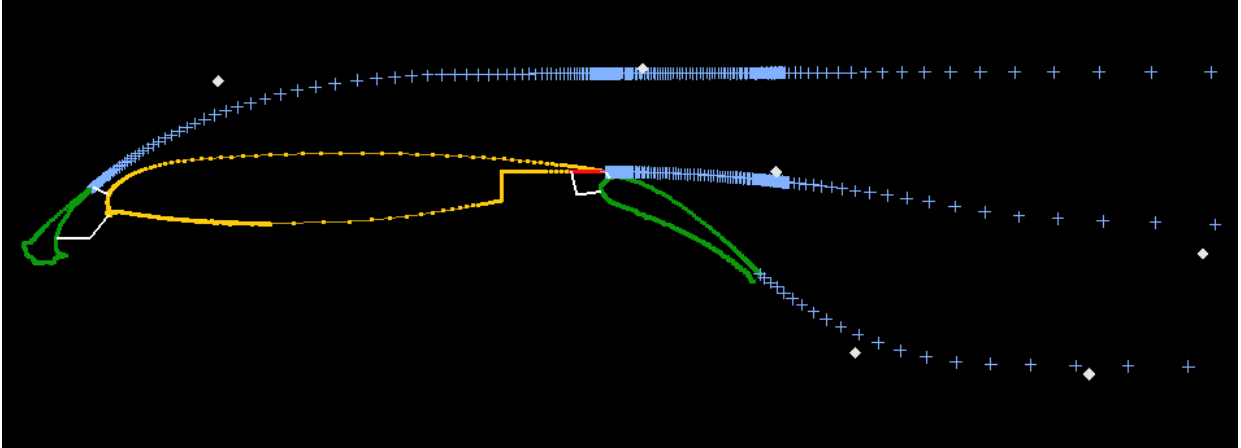

Figure 31. Moving control points changes the shapes of the wakes so that they do not intersect.
- Click the **Move Control Pts** button in the *Wake Definition* window. There are 2 control points for each wake. They are displayed as white diamonds. Use the left mouse button to drag these control points as shown in Figure 31. When they are in the correct positions, press the right mouse button to exit the Move Control Point mode.